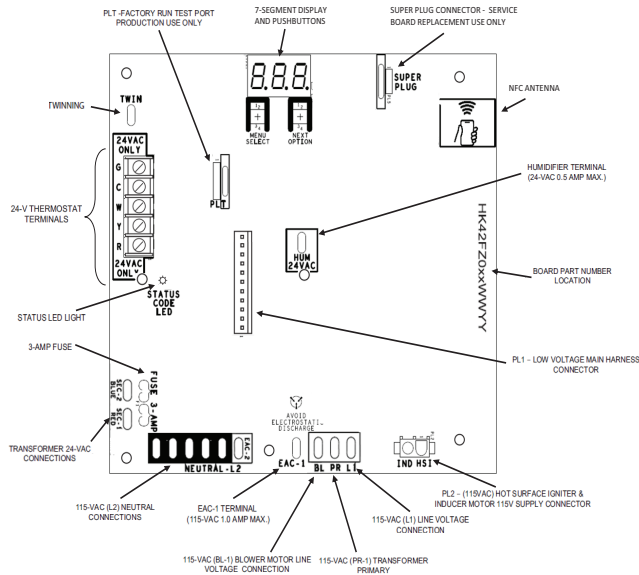

**Fig. 11 – Burner Flame**
**NOTE:** Gas valve regulator seal cap MUST be in place when checking input rate. When correct input is obtained, main burner flame should be clear blue, almost transparent. See Fig. 11. Be sure regulator seal cap is in place when finished.